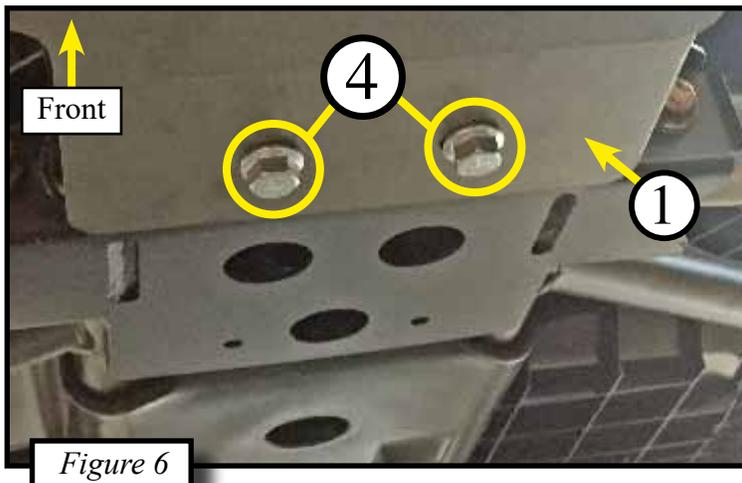

Figure 6
- First evenly tighten the two front A-arm bolts and then tighten up the two rear bolts (4). Shown in Figure 6.